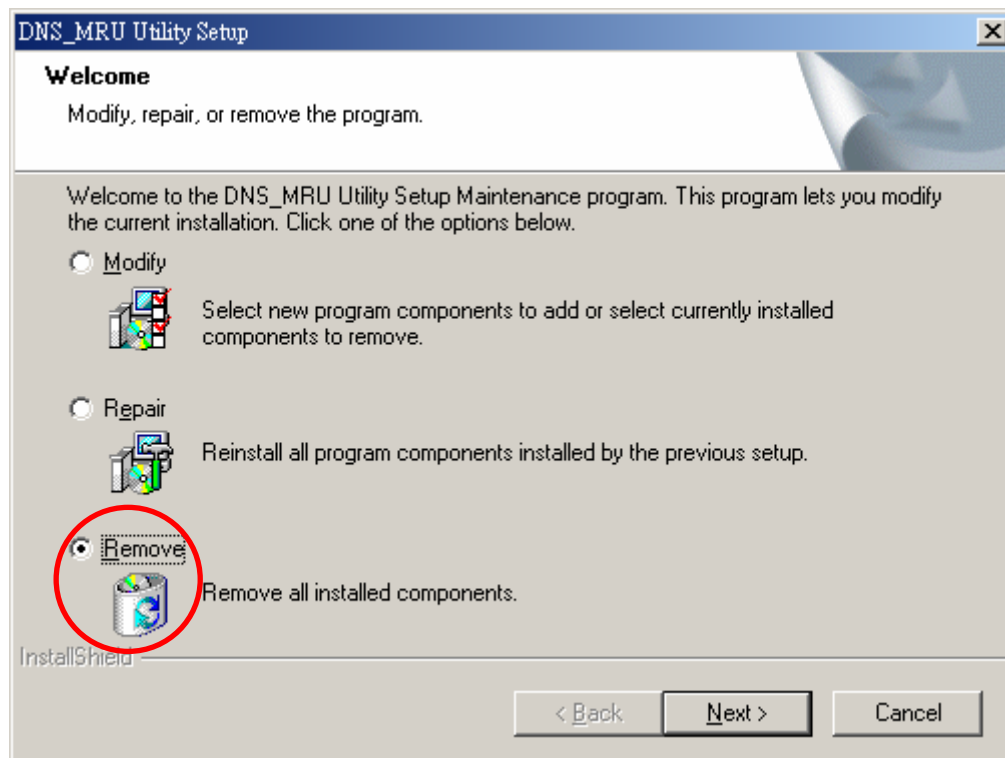

Figure 6-10 “Modify, repair, or remove the program” dialog
**Step 4:** Select the “Remove” option button, and press the “Next” button to remove DNS\_MRU Utility. See figure 6-10.